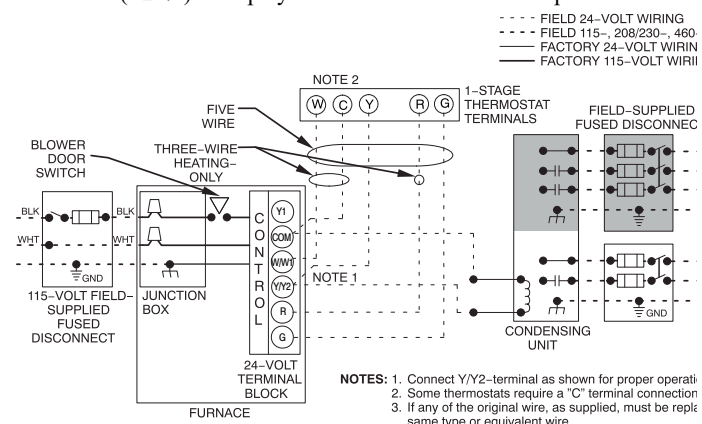

Fig. 24 – Typical Field Wiring Diagram
See Fig. 24 for field wiring diagram showing typical field 115-V wiring. Check all factory and field electrical connections for tightness.
5. Connect line voltage leads, see Fig. 24.
Make field 24-V connections at the 24-V terminal strip, see Fig. 24 - Fig. 29. Connect terminal Y/Y2 as shown in Fig. 24 for proper cooling operation. Use only AWG No. 18, color-coded, copper thermostat wire.